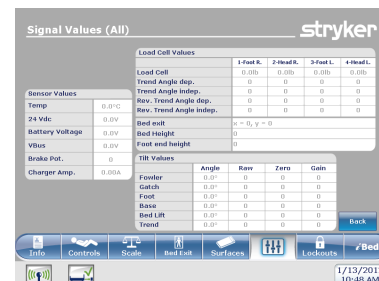

Figure 27f: Signal Values
- f. **SIGNAL VALUES** (Figure 27f)